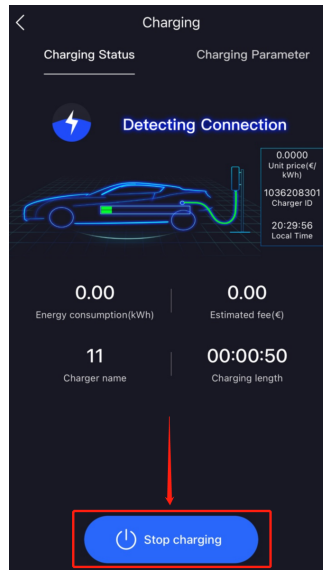

Figure 16: Stop interface
2. Open the StarCharge app or third-party app and click the "Stop" button to stop charging as shown in Figure 16. If successful, the status light will turn green to free mode and the charging process will stop.